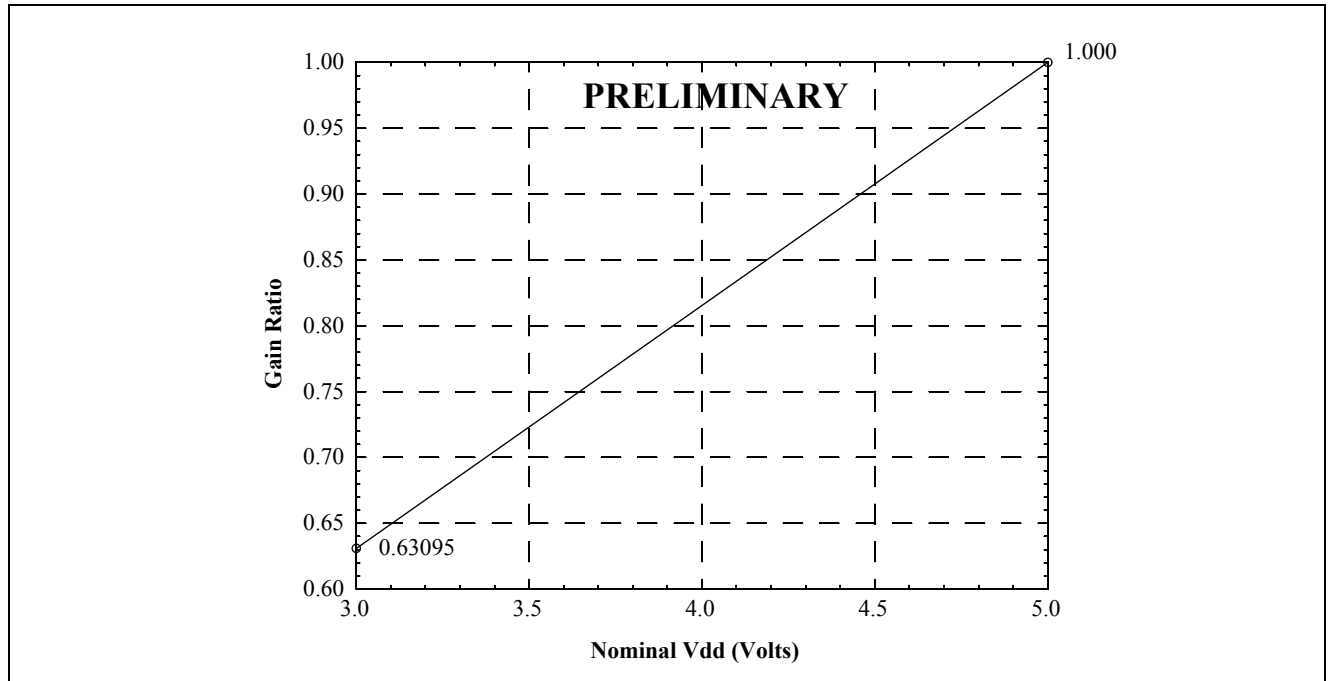

Figure 9 - GS1 and GS2 Gain Ratios as a Function of Nominal Vdd
The MT88E46 is designed to operate from a fixed voltage power supply between 3 and 5 V nominal. A $\pm 10\%$ variation from the nominal voltage is allowed. Its FSK and CAS reject levels are proportional to Vdd. When operated at Vdd equals $3\text{ V} \pm 10\%$, to keep the FSK and CAS reject levels as at $5\text{ V} \pm 10\%$, and for optimal speech immunity, the GS1 and GS2 op-amp gains should be reduced from those of 5V. Gains for nominal Vdd's between 3 and 5 V can be obtained by interpolation between the 3 V and 5 V values shown in Figure 9.
- For the desired nominal Vdd, use Figure 9 to calculate approximate A_v .